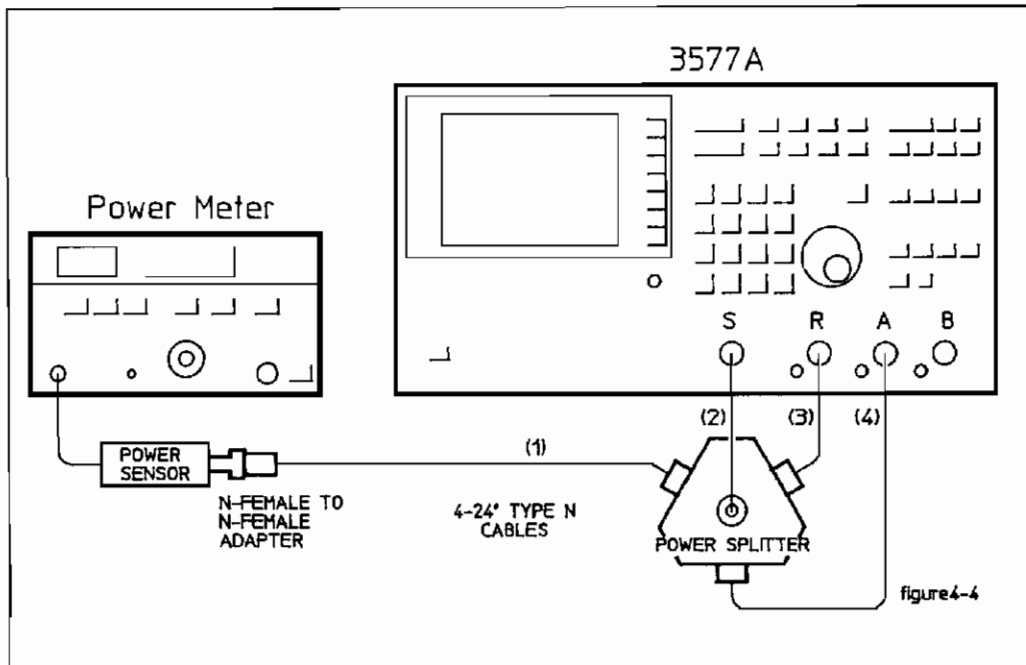

Figure 4-4 Input Level Calibration Test Set Up
- Connect the equipment as shown in Figure 4-4.